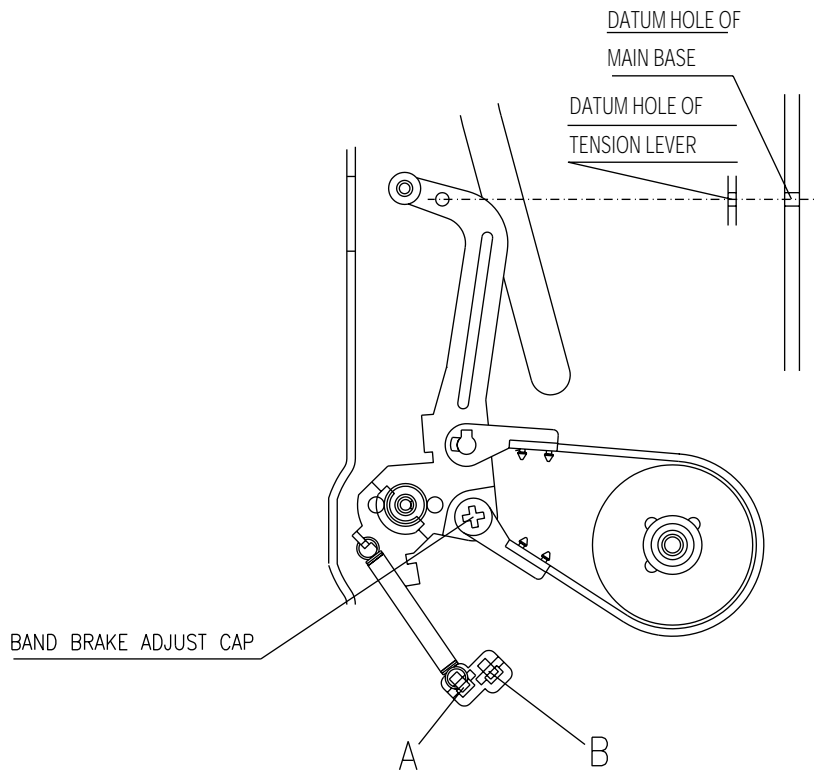

Fig.4-7 TENSION POLE POSITION ADJUSTMENT
- d. If the measuring result is not within this specification, refer to the NOTE below or repeat "4-4 TENSION POLE POSITION ADJUSTMENT". (Fig. 4-7)